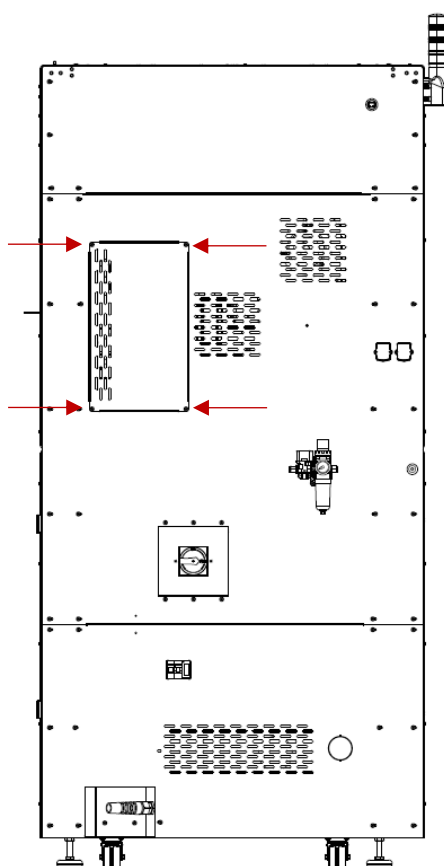

Fig. 121a Marking of the 4 screws of the rear inspection cover to be unscrewed
5. For model F421: Loosen the 4 screws securing the rear cover of the printer and put it aside (Fig. 121a).